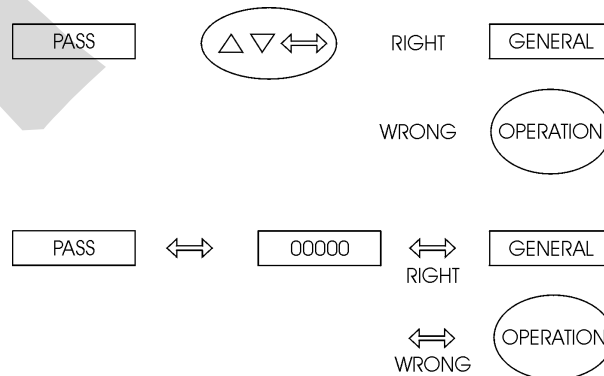

Fig. 8 - Password through key sequence or value
- To display the PASS warning, indicating that the instrument is provided with a password system (a key sequence or a value), according to figure 8.
For a value password, the user must press the ENTER key for a second time in order to view the number 00000 with the right end digit blinking. The position which is blinking indicates the digit in the number to be changed by the user with the UP and DOWN keys. Move to the digits on the left by pressing ENTER. After entering all digits, press ENTER again. If the password is correct level 1 is accessed; otherwise, it returns to normal operation (see figure 8).